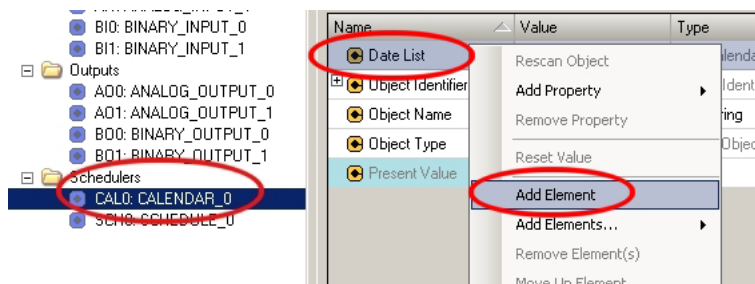

Fig. 4-13: Adding holidays
18. Click with the right mouse button on the property **Data List** and add an entry "[1]" using **Add Element** (see Fig. 4-13).